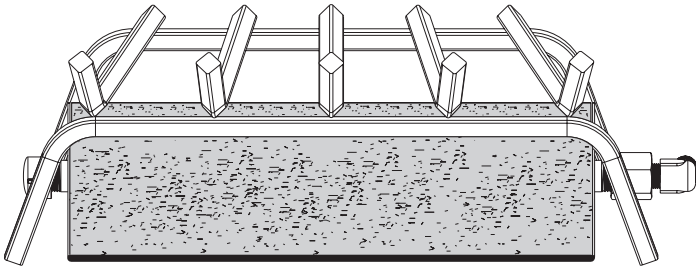

Figure 5
1. Pour the provided sand over the entire burner, filling the burner pan. The sand should follow the slope of the burner pan, covering the burner completely. **See Figure 5.**